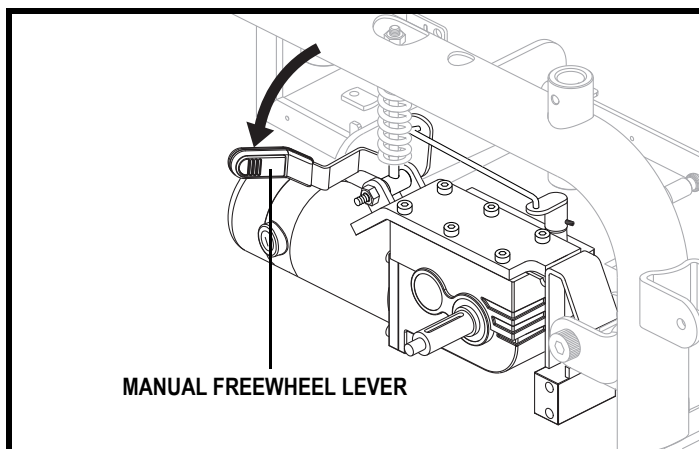

Figure 7. Freewheel Mode (Drive Disengaged)
1. Push the manual freewheel lever on each motor down for freewheel mode (drive disengaged). See figure 7.